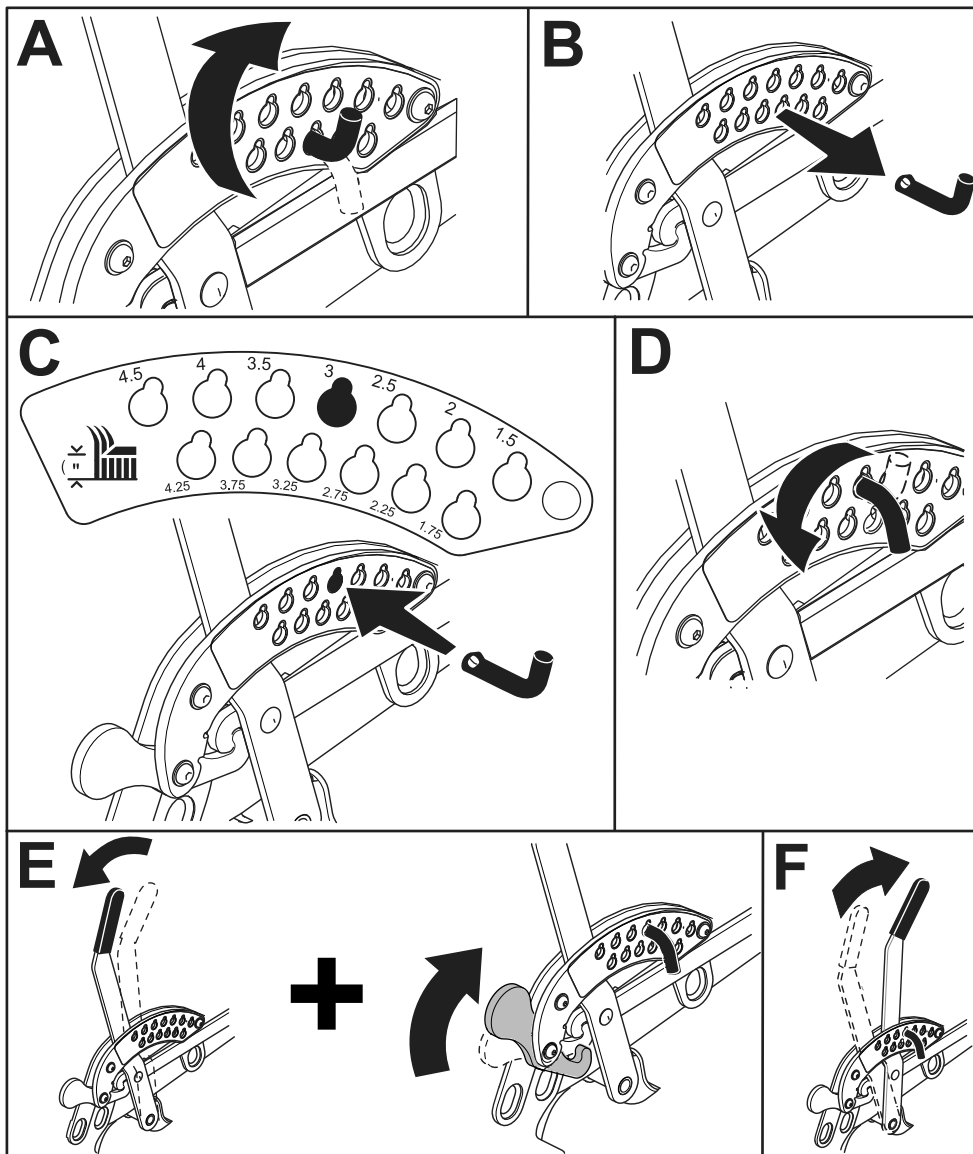

Figure 4
5. Move the height-of-cut pin to the 76 mm (3 inch) position; refer to Figure 4.